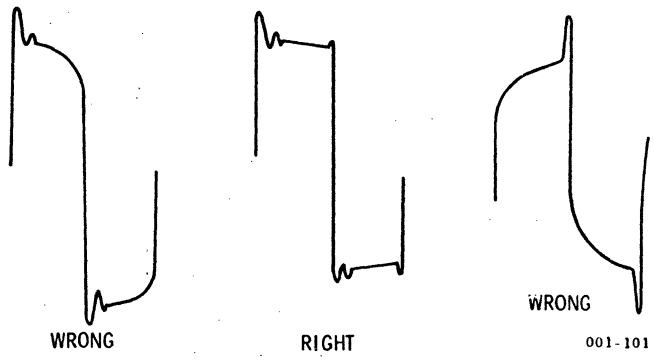

Figure 6-5. Phase Adjustment
9. While observing the output waveform on the monitor oscilloscope, adjust PHASE ADJ. control (R53) for proper leading and trailing edge overshoot, as shown in Figure 6-5.
11. Repeat steps (2) through (10) until both sinewave and squarewave response are correct, as indicated.